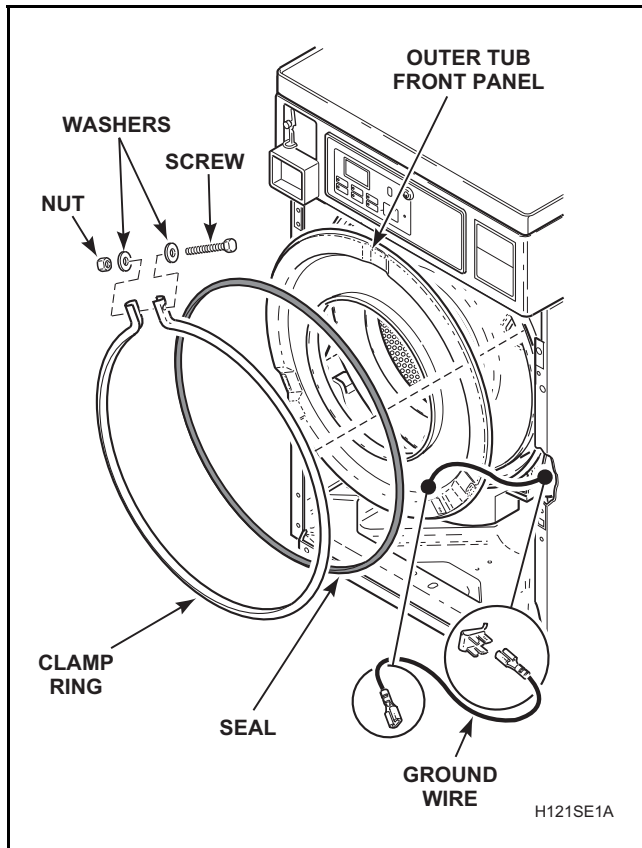

Figure 38
- s. Disconnect ground wire from outer tub front panel. Refer to *Figure 38*.
- t. Remove nut, washers and screw holding clamp ring to outer tub front panel. Refer to *Figure 38*.
- Disconnect ground wire from outer tub front panel. Refer to *Figure 38*.
- x. Remove nut, washers and screw holding clamp ring to outer tub front panel. Refer to *Figure 38*.